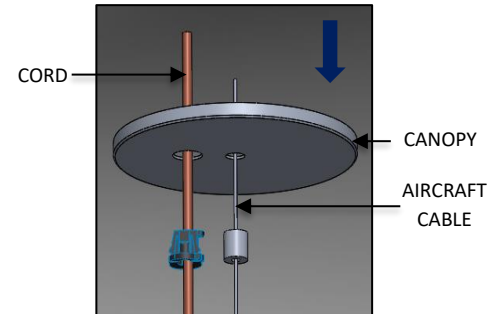

FIG. 24 – CANOPY PLATE
11. Pass the CANOPY through the AIRCRAFT CABLE and CORD in such a way that the AIRCRAFT CABLE goes through the center hole on the CANOPY and CORD passes through the second hole as shown in FIG. 24.